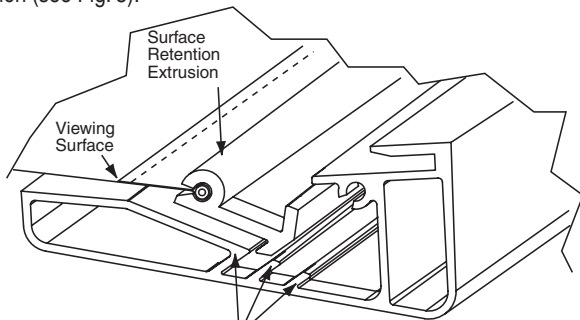

Figure 8
- ④ Surface retention extrusion should extend beyond edge of viewing surface equally at both ends.
- ⑤ Verify that all surface retention extrusions are installed with rounded edge visible and are centered on surface material.
- ① Return frame onto clean surface, face down, and drape completed surface assembly over completed frame profile with rounded edge of surface retention extrusion visible.
- ② Insert any side of surface to notch #1 on corresponding side of frame extrusion (see Fig. 8).